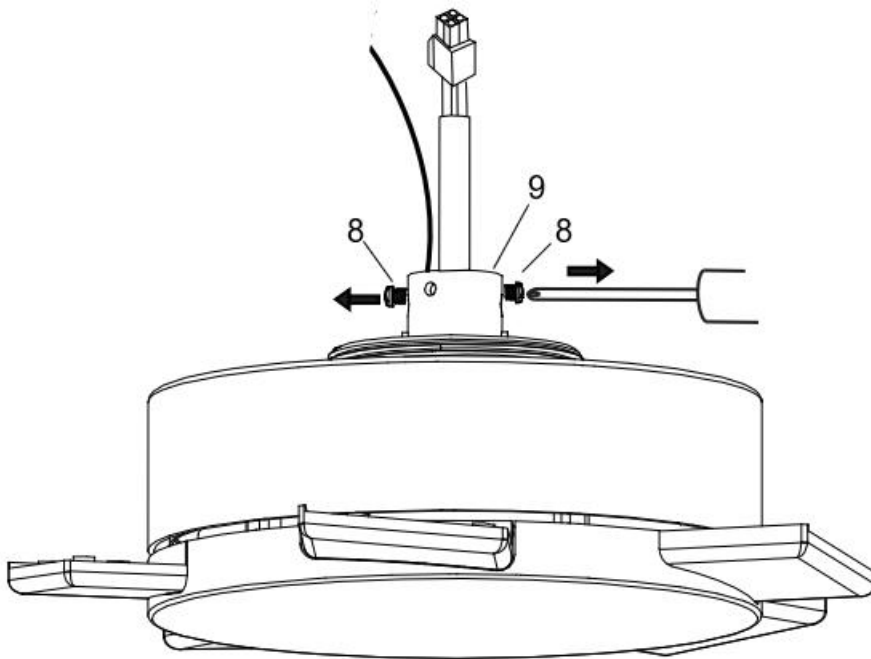

Fig. 4.3
3. Loosen the set screws (8) on the down rod coupling housing (9). (Fig. 4.3)